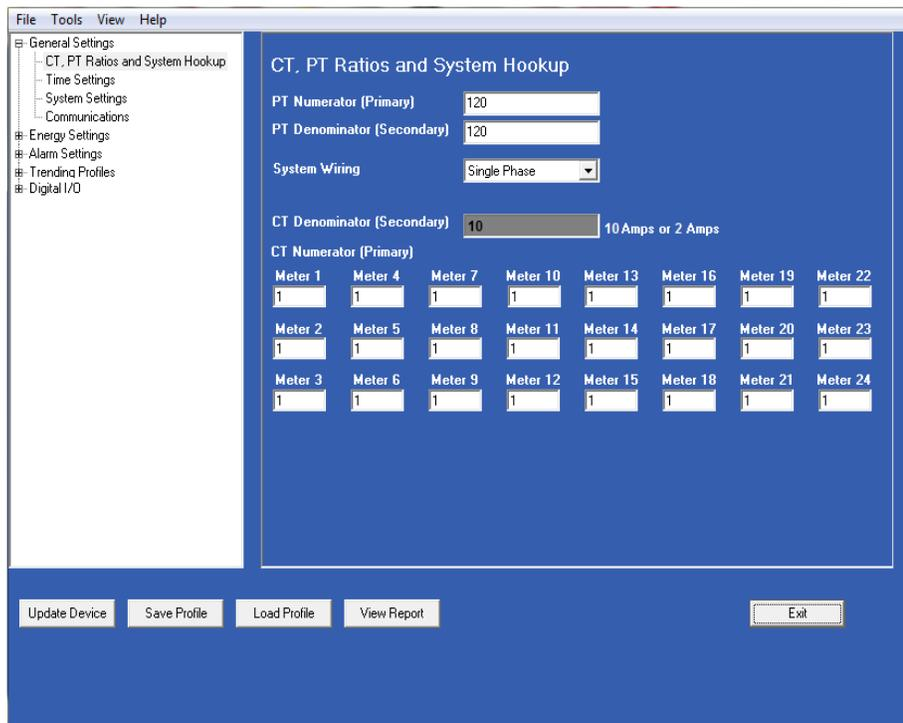

FIGURE 5.8: EPM 4600 Unit with Single Phase Configuration - EPM 4600-S
- Is compatible with standard USB cables that terminate with a USB Type B plug (see Figure 5.8)